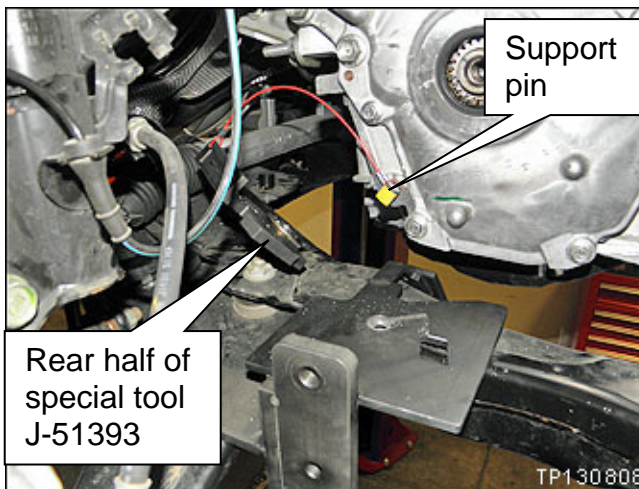

Figure 11
16. Install the Rear Half of special tool J-51393 as follows (see Figures 11, 12, and 13):
- a. Hold the rear half of the special tool from under the engine as shown in Figure 11.